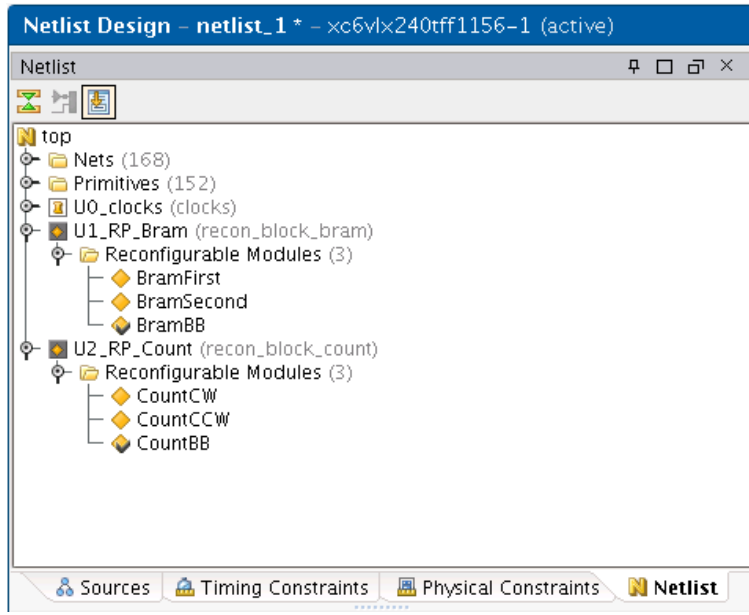

Figure 10: Netlist Window with Black Box Modules
If you completed this optional step, there will now be one black box module under each Reconfigurable Partition (RP) in the netlist window as shown in Figure 10. Here you will notice that there are no longer any Nets or Primitives listed for the RM. This is because the black box RM is currently active, and there is no logic or nets associated with this module.